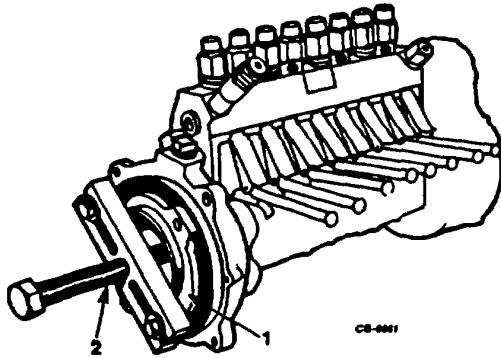

Figure 18. Removing Drive Hub
5. Remove drive hub from camshaft by using a gear puller (Figure 18). Remove woodruff key from camshaft.